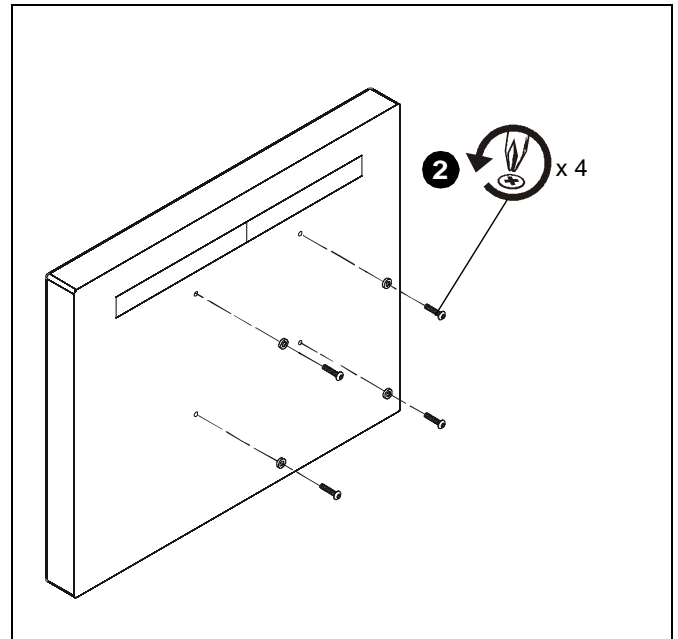

Figure 6
2. Remove four sets of bolts and washers that were shipped attached to the back of the display. Set hardware aside for re-use. (See Figure 6)